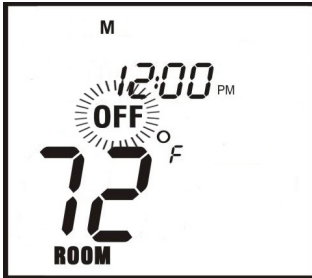

Fig. 8 OFF Mode
To operate the transmitter, first press the MODE button until the LCD screen reads OFF in the display (Fig. 8).
Step 3: Press the MODE button a third time to turn the appliance back **OFF** again as show in Fig. 8.